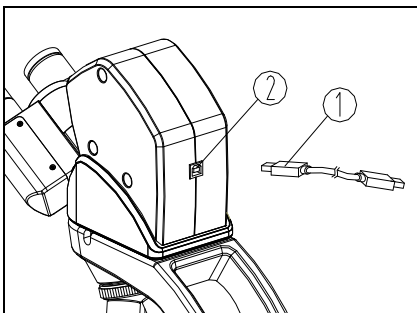

Fig.19
Insert the connector (1) of data cable into the USB interface (2) on the back of microscope head, and insert the other connector into the USB interface of the computer (See Fig.19), view microscope video by video capture and analysis software and use binocular observation (Only for USB digital microscope.)